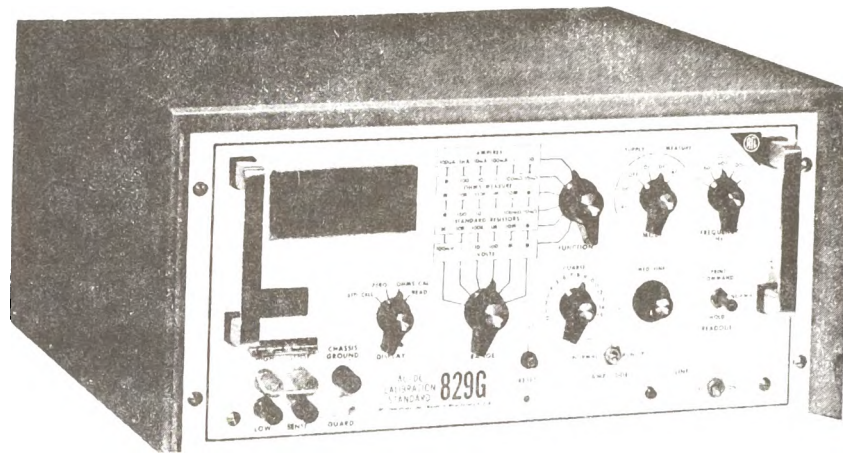

Figure 3-1. 829G front panel.
**Basic Capabilities of the RFL 829G.** The Model 829 AC/DC calibration standard is a highly stable and precise instrument. It has the ability to supply a wide range of AC-DC voltage and current and preset resistance values; to measure AC-DC voltage and current of the same parameters which it can supply; and to measure a broad range of resistance value (fig 3-1).